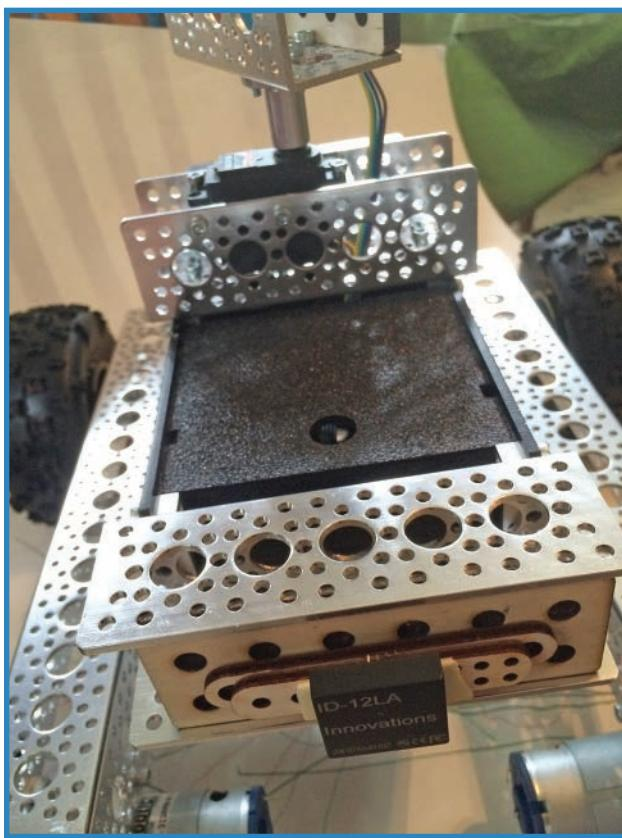

FIGURE 13.27 Attach the sensor to the rover.
18. Stick the sensor to a piece of wood as you did with the other assembly. Figure 13.27 shows how it should look.